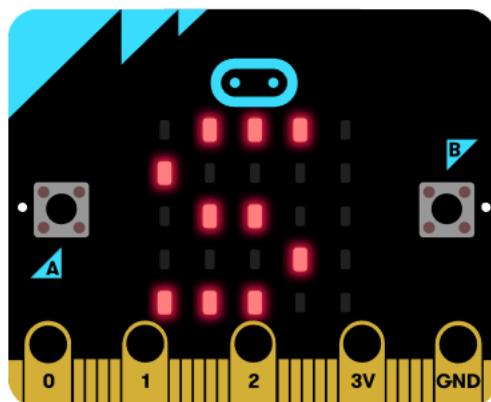

Figure 1.1
6.1 First, we need to download the microbit-Ominbit-APP-control.hex to micro:bit of the Spider, you can see that the micro:bit dot matrix shows an "S" as shown in Figure 1.1, which is the state that Bluetooth is not connected.